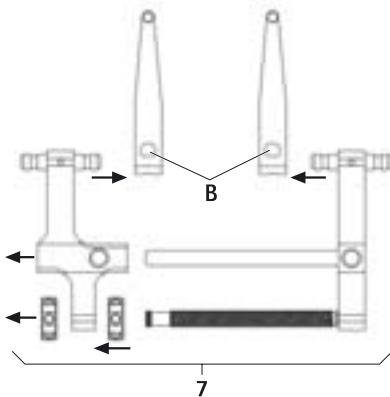

Fig. 2
- To dismount distractor 7 with the distraction blades, see Fig. 2: